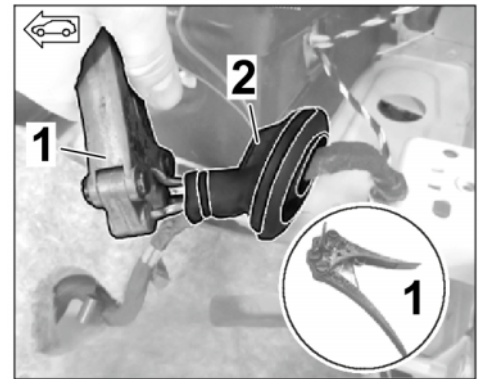

Figure 24
3.3.7 Guide the new branch for the exhaust flap (left/right) through the new grommet (left = Ø 66.5 mm/right = Ø 46 mm ⇒ *Figure 24*) using three mandrel pliers and an auxiliary line (Tekalan or Teflon tube).